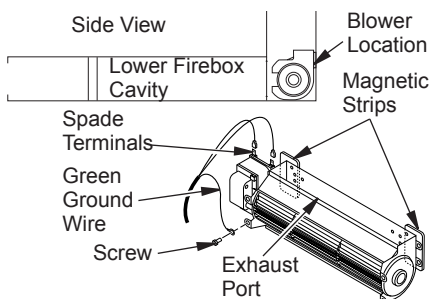

Figure 25 - Blower Model BK
1. Attach the power cord to the blower motor by firmly pushing the two female terminals at the end of the power cord onto the two spade terminals on the blower motor (see Figure 25).
2. Attach green ground wire from power cord to blower housing using screw provided (see Figure 25). Tighten screws securely.
3. Place the blower against the lower rear wall of the firebox outer wrapper with the exhaust port directed upward. The blower will fit inside the back opening and be held in position against the back wall by the magnets (see Figure 25, page 17).